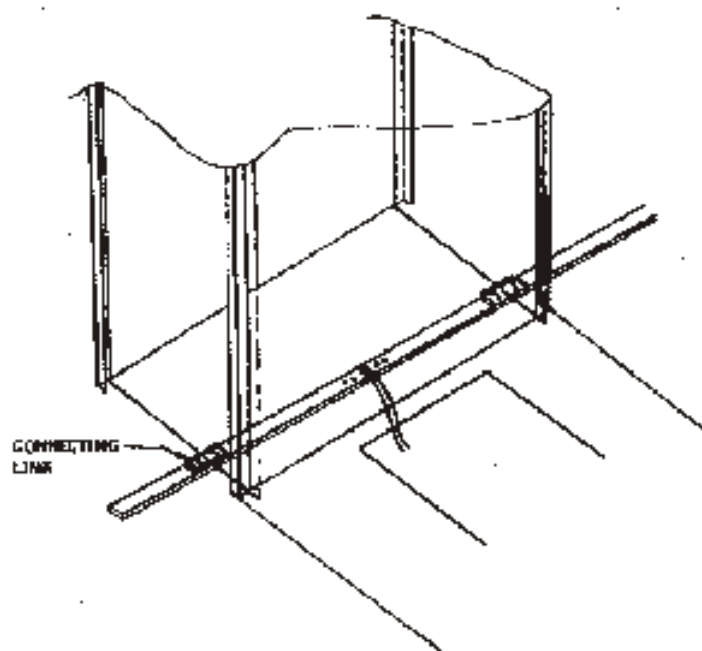

Fig 35
3.9.6 If the cubicles have a through earth bar, this should be fitted according to figures 35. Check that the bushings between the cubicles are seated correctly. The external earth-cable is only fitted to the outer cubicles in a row in the same way as above.